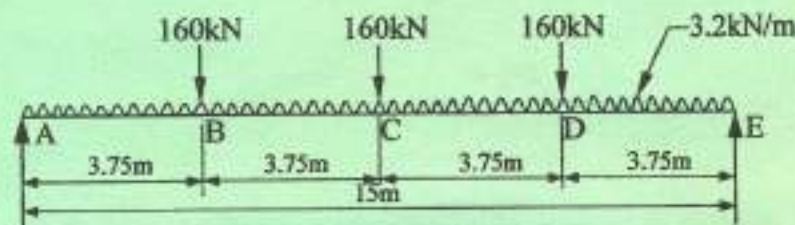

Fig 5
- (b) Select a suitable universal beam section to support the loading system shown in Figure 5.